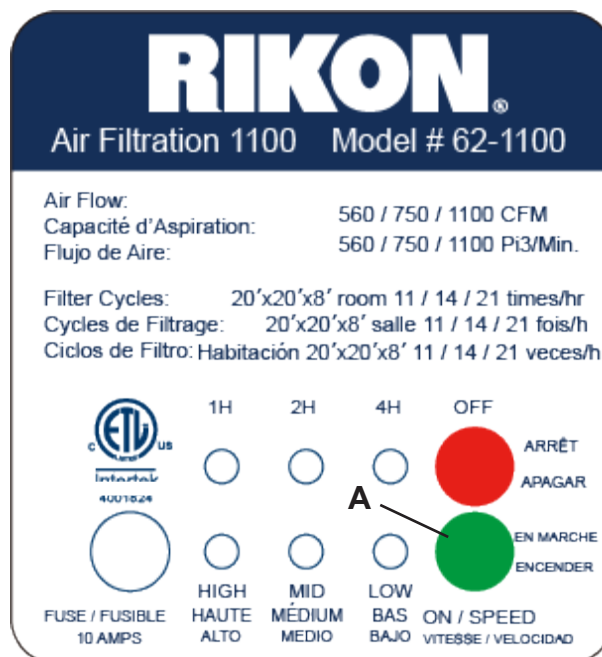
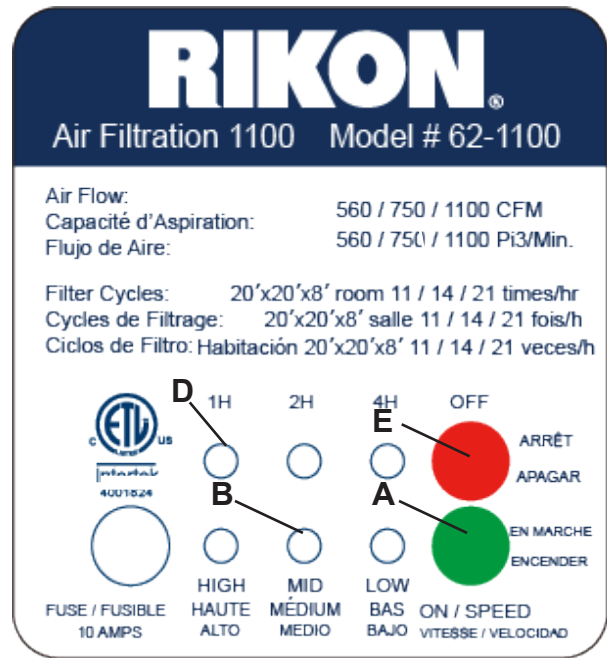
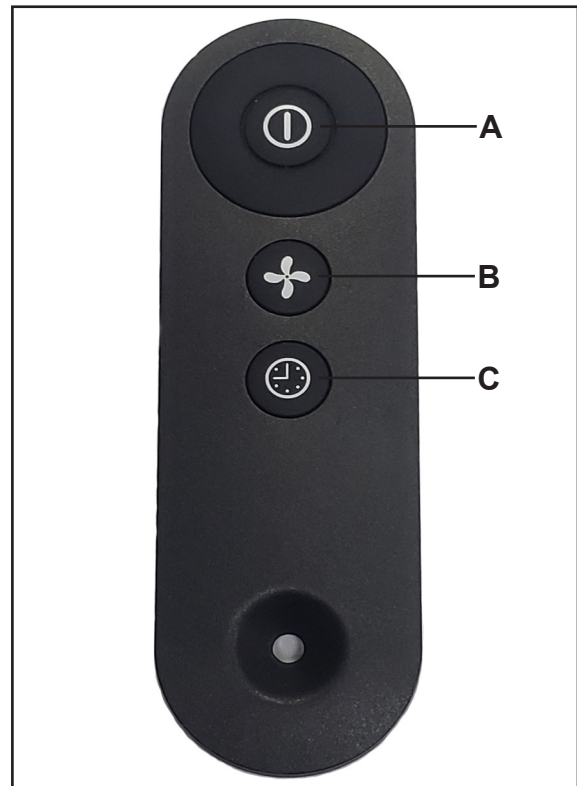

Fig.07
Fig.08
Fig.09
Turn on the air filter and speed setting (Fig.07 and Fig.08)
Set the timer (Fig.08 and Fig.09)
1. Press the TIME button (C) on the remote control (Fig.09) to start the timer.
2. Press the TIME button (C) on the remote control again to set the length of operation. The LEDs (D-Fig.08) on the control panel indicate the amount of time selected - 1 hour, 2 hours, 4 hours. Press a fourth time to clear the timer.
To turn off the Air Filter, press the OFF button (E-Fig.08) on the control panel or (A-Fig.09) on the remote control.
Remote Control (Fig.09)
The air filtration system can also be operated with the supplied infrared remote control. The infrared receiver is located on the main control panel. The remote control has the same functions as the main control panel above in Fig.08. However; the timer can be set ONLY with the remote control. Fig.09, (C).
- ON / OFF button (A)
- SPEED button (B)
- TIMER button (C)